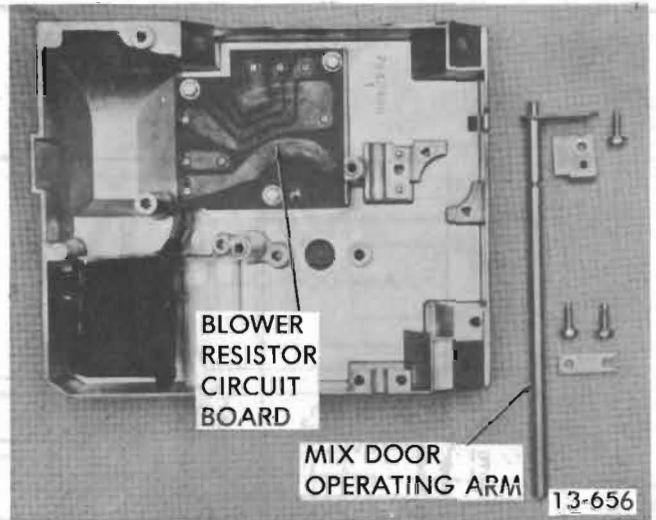

Figure 13-131 Mix Door Operating Arm - Removed
4. Remove three (3) retaining screws and two (2) retaining clips and remove mix door arm.
5. To replace, reverse removal procedure. See Figure 13-131.